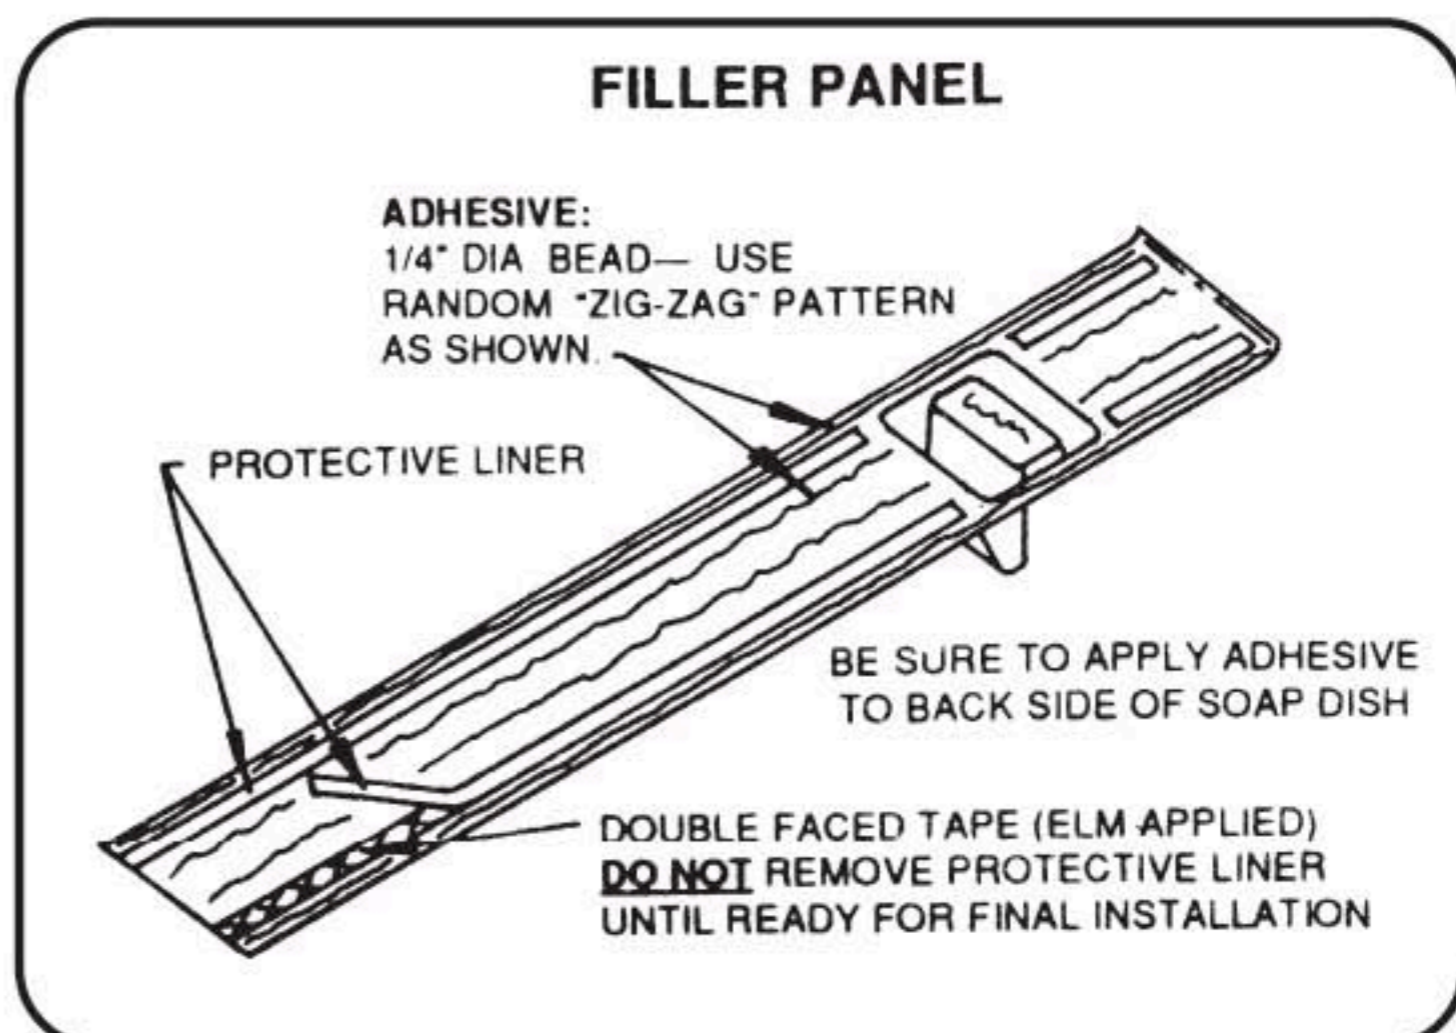

FIG. 7
7. **FILLER PANEL** - Remove protective liners from tape strips, carefully position **Filler Panel**- overlapping top edge of **Center** and **Corner Panels**. **CAUTION:** PANEL CANNOT BE REPOSITIONED IF PREMATURE CONTACT IS MADE WITH TAPE! Align top edge with previous marked guide line. Press panel in place working from top overlap edge to bottom edge. Clean any excess sealant that may seep out. (FIG. 7)